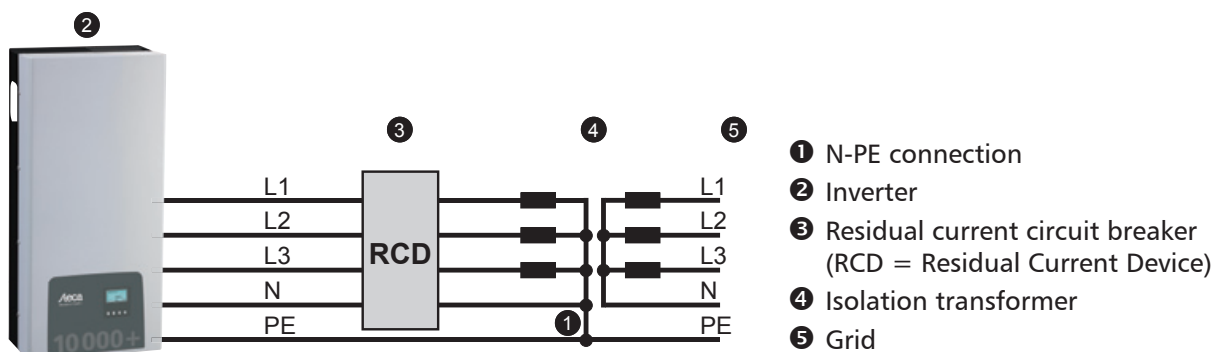

Fig. 8: Connection diagram of the isolation transformer
► If an isolation transformer is required then it must be connected as shown in Fig. 8.
- In the connection diagram illustrated in Fig. 8, the primary and secondary sides of the isolation transformer are not galvanically isolated!
- If connection ❶ is missing, the isolation monitoring of the inverter is not functioning correctly.